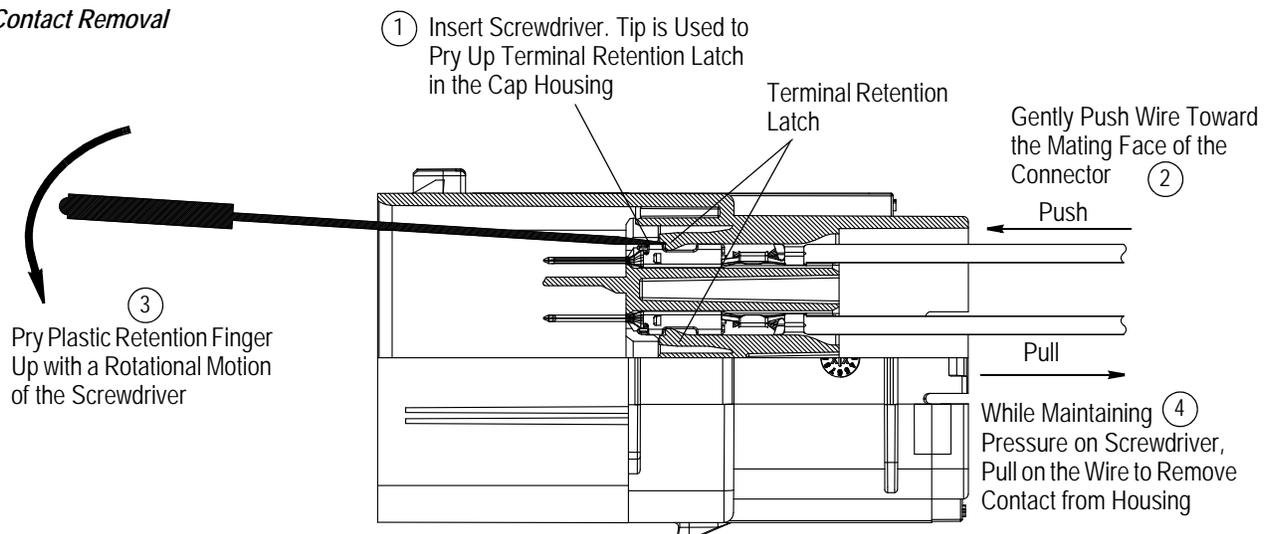

Figure 9
2. Insert a 0.8-1.0 mm [.031-.039 in.] flat-blade screwdriver into the selected exposed contact cavity as shown in Figure 9.
4. Rotate the screwdriver toward the contact to lift the housing retention finger away from the contact. See Figure 9.